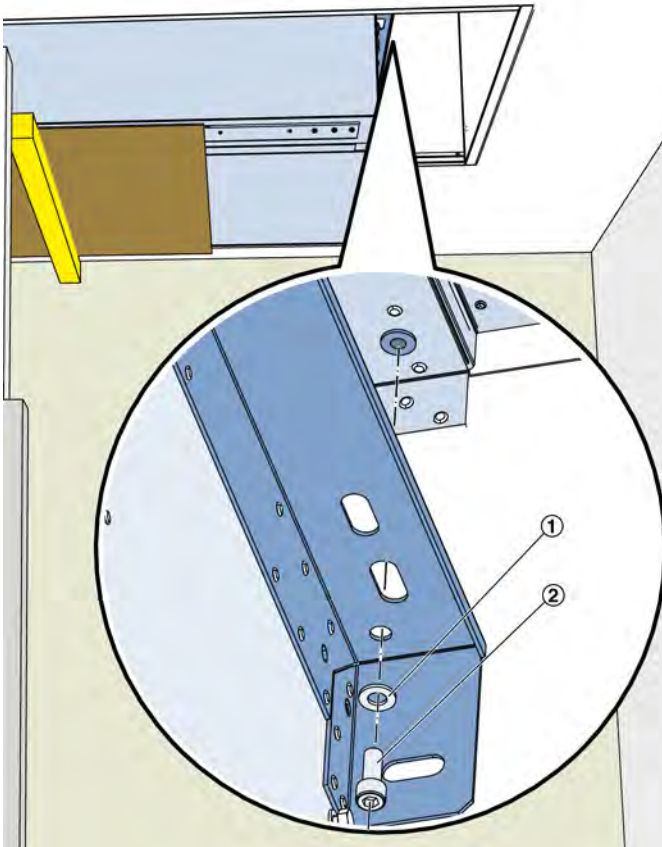

Fig. 42: Insert component 1 into the door frame and screw it into place.
6. ▶ Insert component 1 with the lift into the door frame and screw it to the door frame with a total of 6 M10x25 screws (Fig. 42 /1) and washers (Fig. 42 /1). Tighten the connecting screws between the ventilation unit and the frame with 47 Nm.